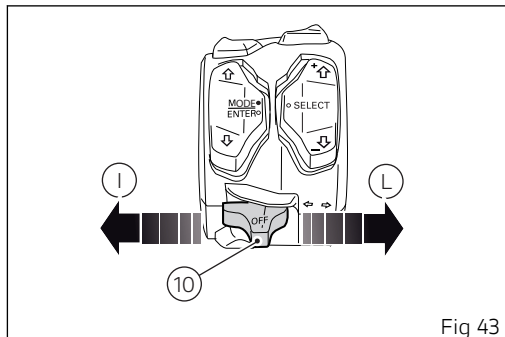

Fig 43
When turning the key to off, the display shows the page where to switch on the parking lights: to turn on the parking lights, keep pressed button (10, Fig 43) in position (I).